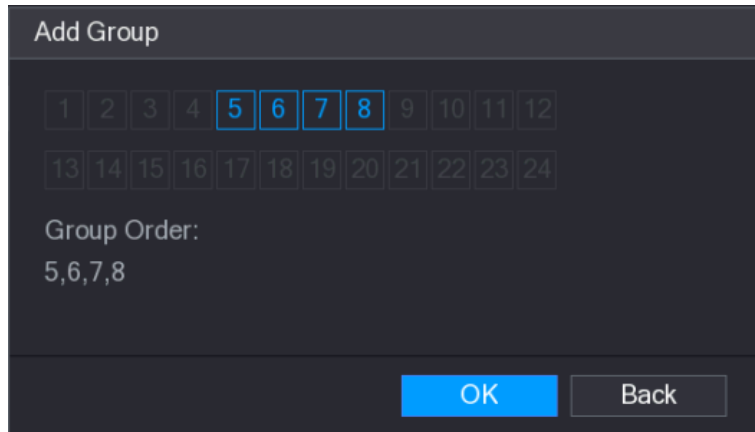

Figure 5-54
**Step 2** Select the channels that you want to group for tour. See Figure 5-54.